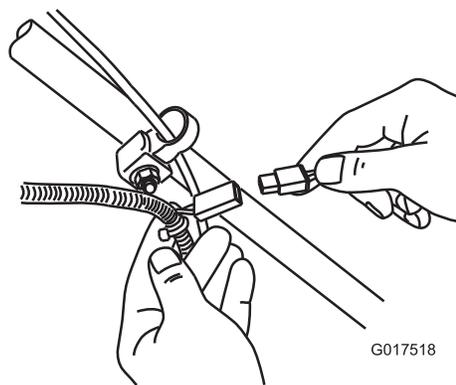

Figure 33
1. Connect the charger to the wire harness, which is located below the ignition key (Figure 33).